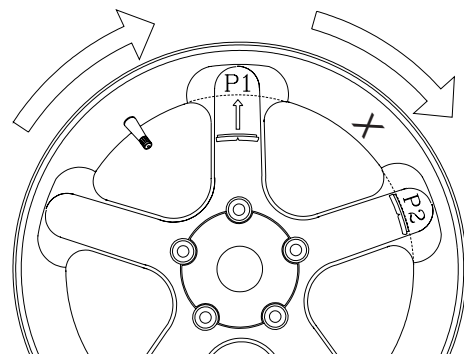

Figure 36
8. The display will read “**P -2**” on its left window and the balance weight amount in right window. Place the weight amount displayed at “position 2” behind the spoke, then rotate the wheel to locate position 1. See Figure 36.